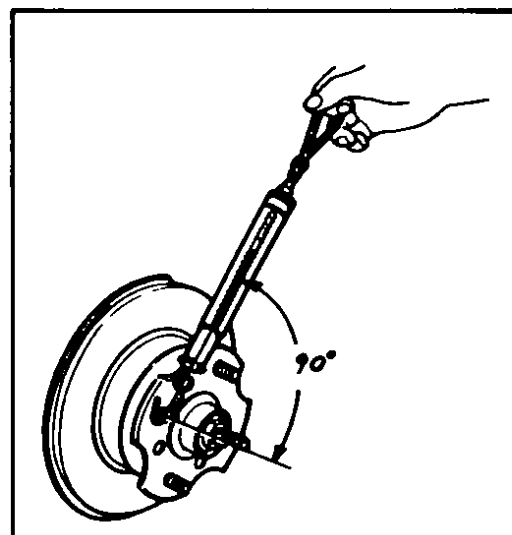

Fig. 116 Measuring bearing preload
5. Rotate wheel hub several turns in both directions to see if it rotates freely. Then, measure bearing preload using a spring balance as follows, Fig. 116.